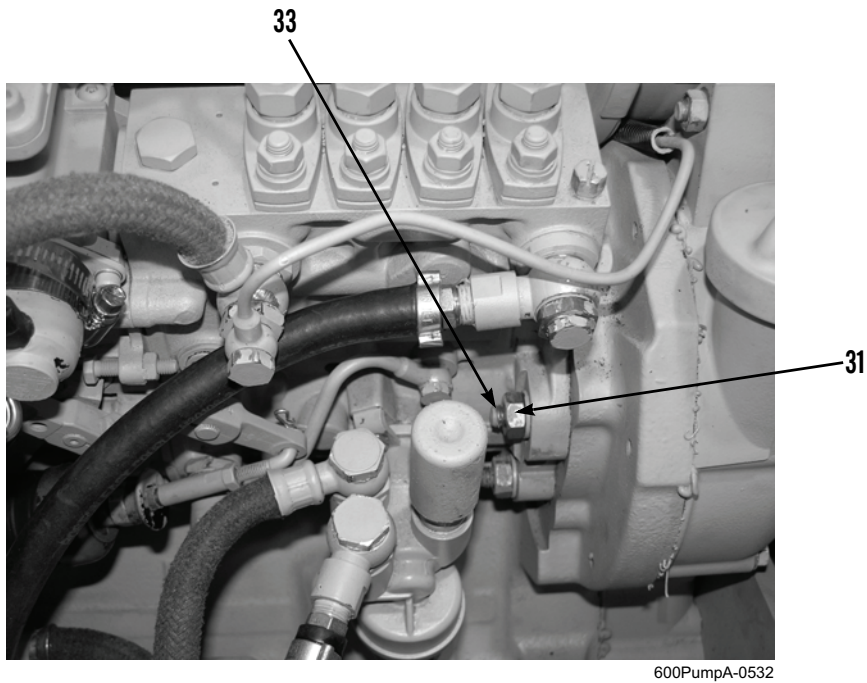

Figure 34. Fuel Injection Pump Mounting.
16. Tighten four nuts (Figure 34, Item 31) at studs (Figure 34, Item 33) to 30 to 35 lb-ft (40 to 48 Nm).